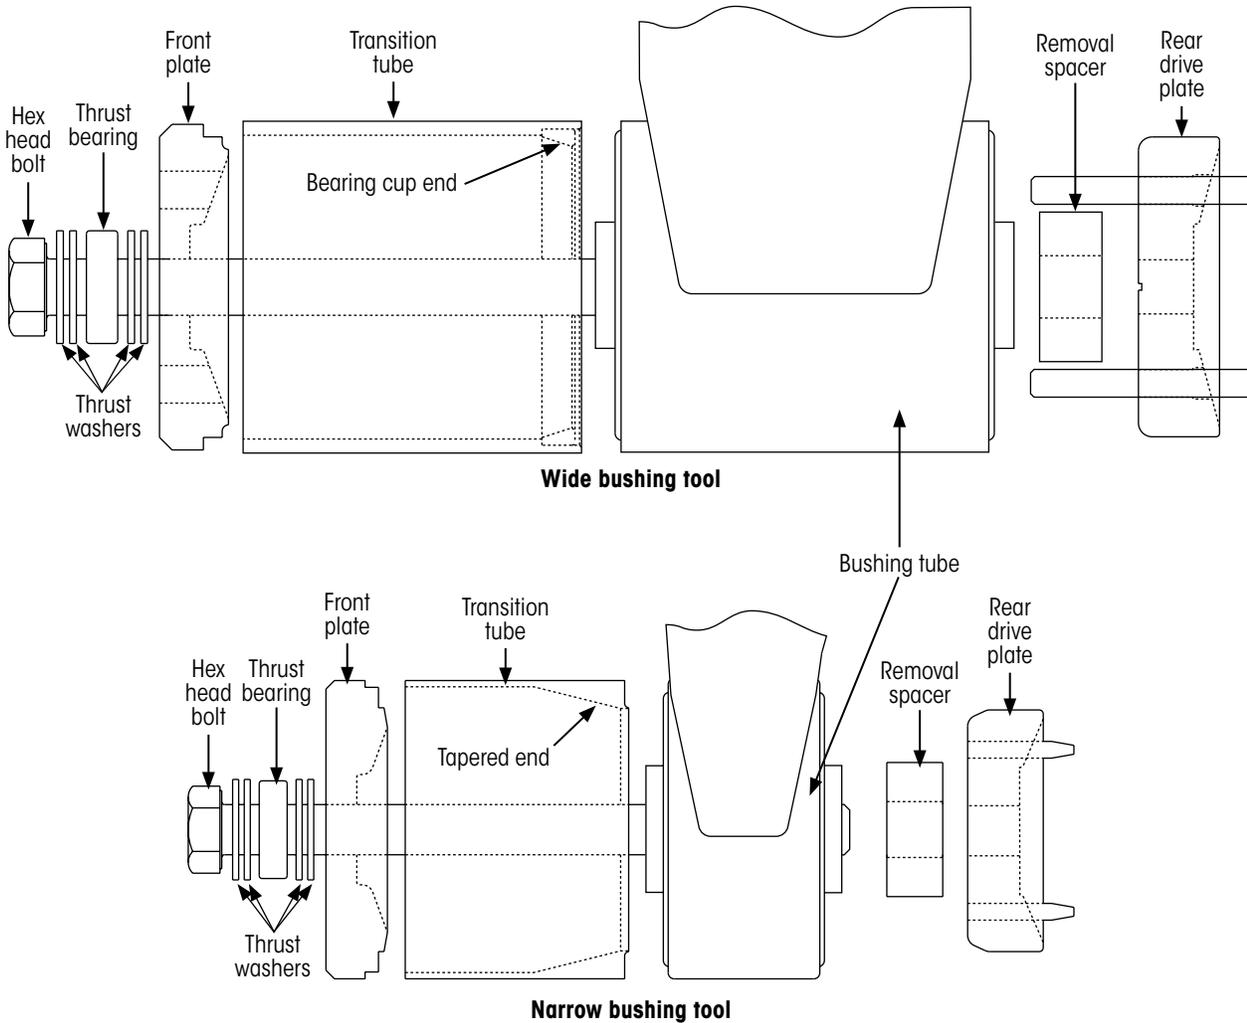

Figure 17: Assembling bushing tool for removal
5. With the transition tube empty, **assemble** the bushing replacement tool as shown in Figure 17.
IMPORTANT: For bushing removal, ensure the tool is assembled so that the end of the transition tube with the bearing cup (wide tool) or taper (narrow tool) can be placed against the bushing tube as shown in Figure 17.
IMPORTANT: There must be two lubricated thrust washers on each side of the thrust bearing as shown in Figure 17.